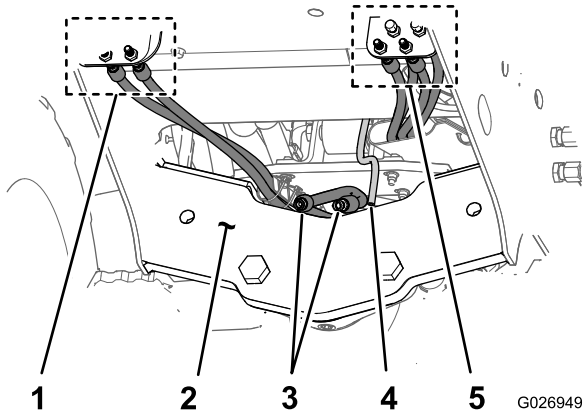

Figure 7
1. At the front of the machine, carefully identify and uniquely mark the position of the hoses at the left and right bulkhead panels (Figure 7).
2. Remove the hoses from the fittings left and right bulkhead panels and cap the hoses (Figure 7).
2. Connect the hoses to the fittings in the left and right bulkhead panels (Figure 7).